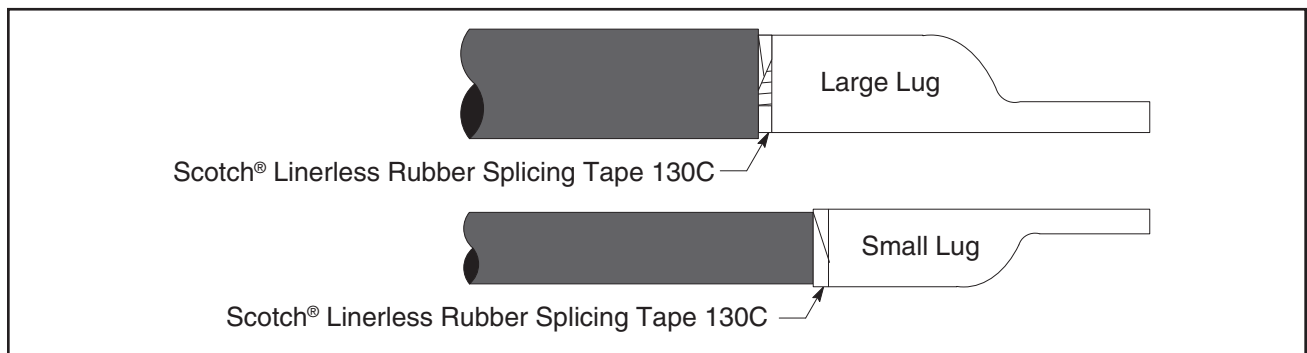

Figure 1
- 2.3 FOR 8kV ONLY. Fill lug/insulation gaps with Scotch® Linerless Rubber Splicing Tape 130C (*Figure 1*).